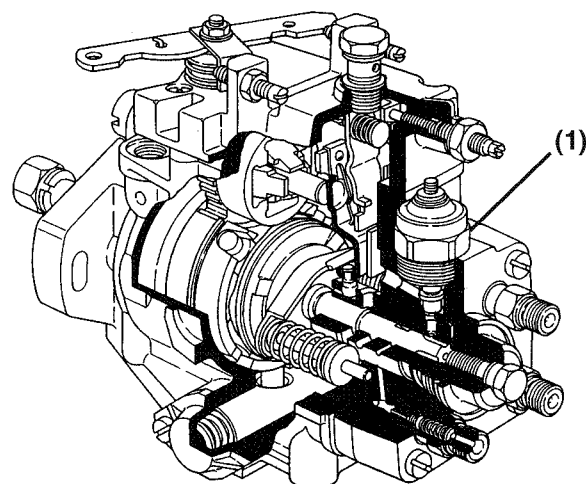

Figure 7
When the key is turned to the ON position, the engine stop solenoid (magnetic valve) (**Figure 7, (1)**) is energized and allows the fuel injection pump to deliver fuel to the engine, allowing the engine to be started. When the key is turned to the OFF position, the engine stop solenoid (magnetic valve) is de-energized and shuts off the fuel supply from the fuel injection pump to the engine, causing the engine to stop.